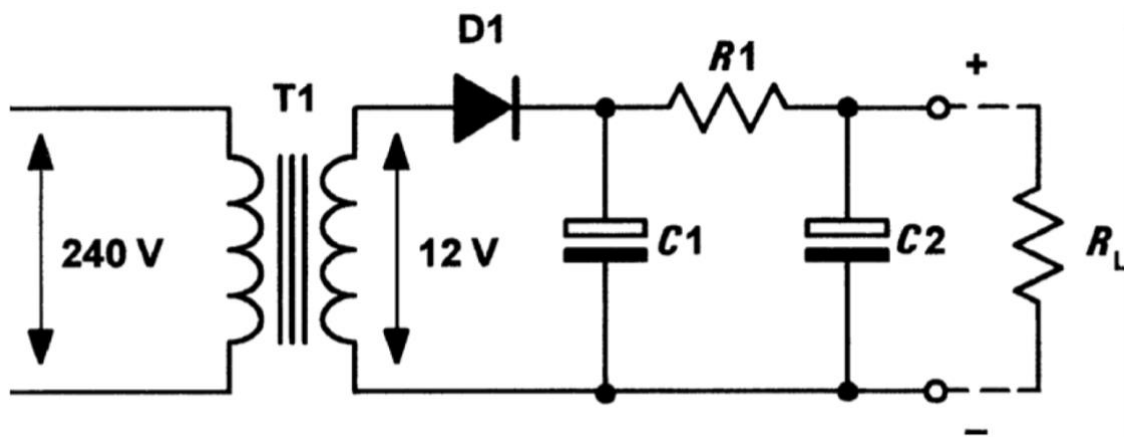

Figure 1.9 Half-wave rectifier circuit with R-C smoothing filter
- Fig. 1.9 shows a further refinement of the simple power supply circuit.